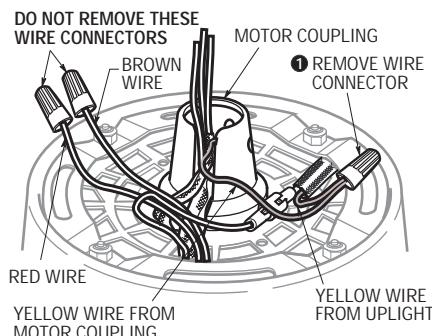
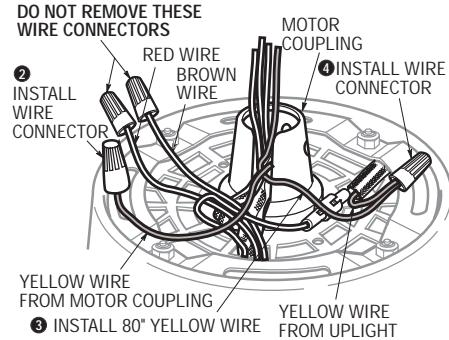

Figure 8
Figure 9
14. For Ceiling Fan Models CF4500 and CF4800 Only. Locate the two yellow wires terminated by a wire connector. Remove the wire connector and separate the wires (Figure 8). One yellow wire comes from the motor coupling; cap the end of this wire using a wire connector (supplied) (Figure 9). Separate, untwist and unkink the 80" yellow wire lead (supplied with the fan) and cut off the connector from the end of the wire. Strip 1/2-inch of insulation from the end of this wire. Then join the 80" yellow wire to the yellow wire from the uplight using a wire connector (supplied). (Figure 9).